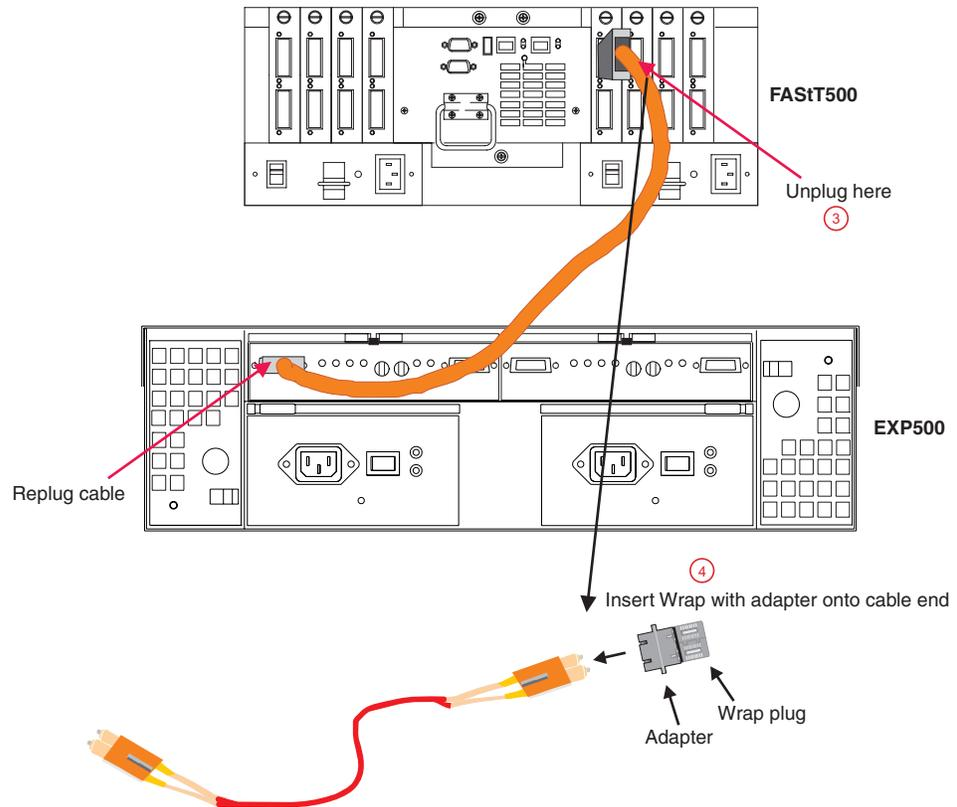

Figure 47. Insert wrap plug with adapter on cable end
4. Insert a wrap plug with an adapter onto the cable end. See Figure 47 on page 118.